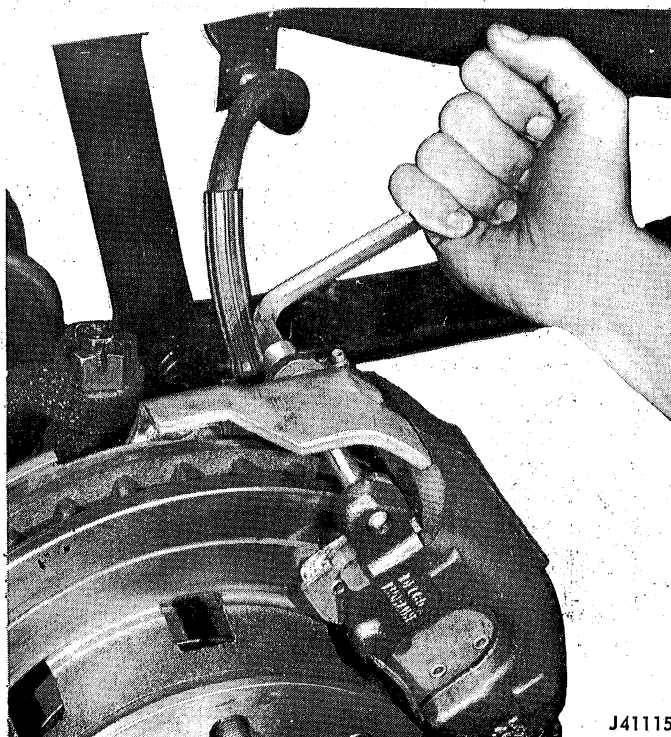

Fig. 2G-35 Caliper Mounting Bolt Removal
- (1) Remove two-thirds of brake fluid from master cylinder front reservoir.
- (2) Raise vehicle.
- (3) Remove front wheel and tire.
- (4) Bottom caliper piston in bore. Insert screwdriver between piston and inboard shoe and press piston into bore. If piston is difficult to move using screwdriver, use large C-clamp.
- (5) Remove caliper mounting bolts using hex wrench (fig. 2G-35).